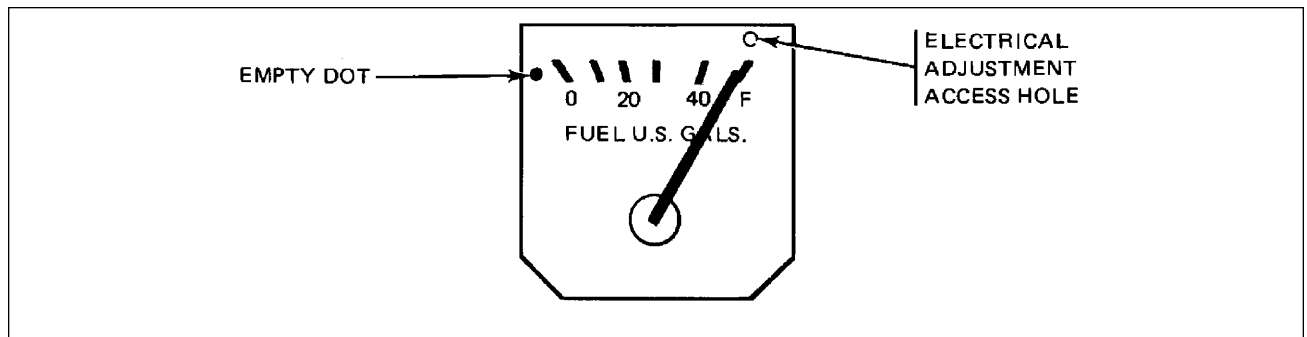

Figure 8-4. Fuel Gauge (PA-32R-300)
- i. With the tanks full and master switch “ON,” the needle should be centered on the “F” radial mark within ± 1 needle width. If not within this tolerance, adjust the electrical adjustment (refer to Figure 8-4) just sufficiently to bring it within tolerance; do not center the needle.